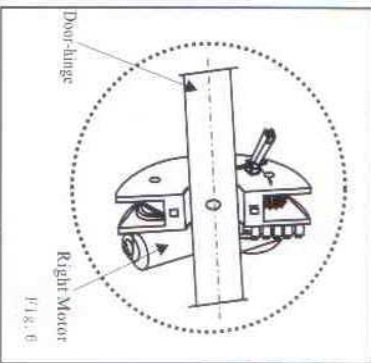

Fig. 6
3.8 Have a part of electrical machinery place inboard of door-hinge on regular seat, make inside screw hole and first of doorhinge wear empty interior hole aline, such as Fig. 6;
3.9 Is it put regular seat in place a part of switch put in outside door-hinge, make screw and first of door-hinge is it wear empty other hole aline to take a taxi to have, use the tight screw on six mao spanner, such as Fig. 6;